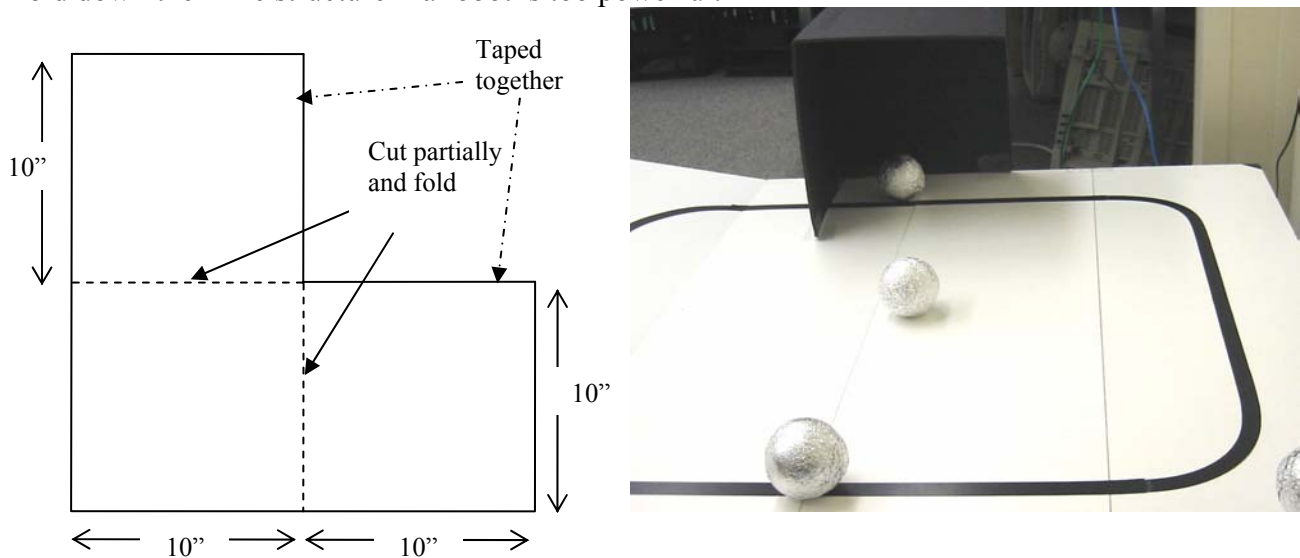

Figure 4 The tunnel (Mine structure)
- 20"x30" black foam board is used (You can make two. see figure 4).